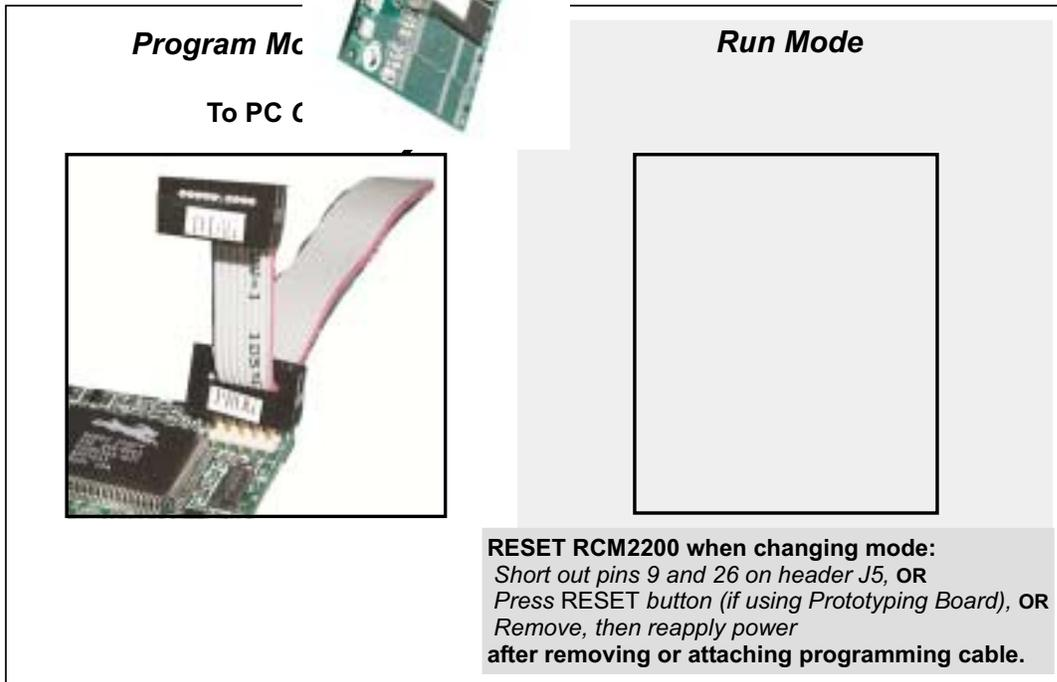

Figure 5. Switching Between Program Mode and Run Mode
2. Reset the RCM2200. You may do this as explained in Figure 5.